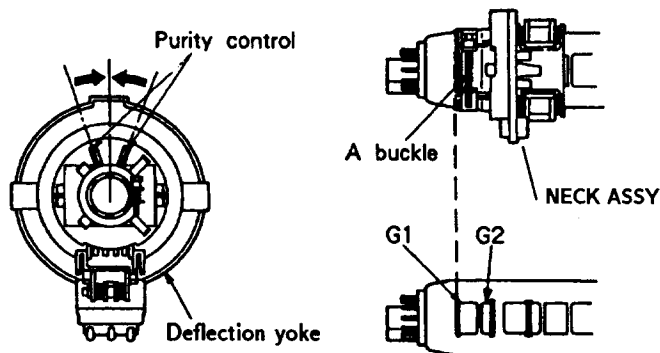

Fig. 3-6
2. Position neck ass'y as shown in Fig 3-6.